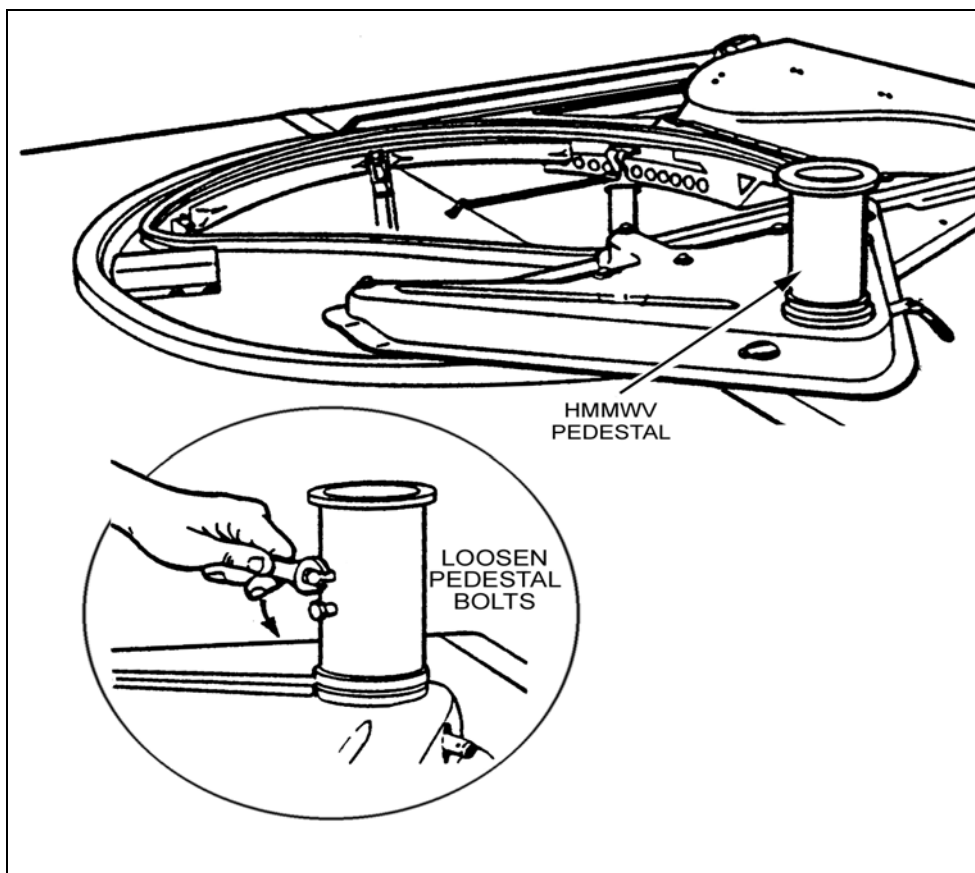

Figure 3-20. HMMWV pedestal.
(1) **HMMWV Weapon Platform.** To mount the MK 19 on the HMMWV weapon platform (Figure 3-20):
(1) Loosen the HMMWV pedestal lock screws by turning counterclockwise until the threaded ends are flushed with the pedestal's inner wall (Figure 3-20).